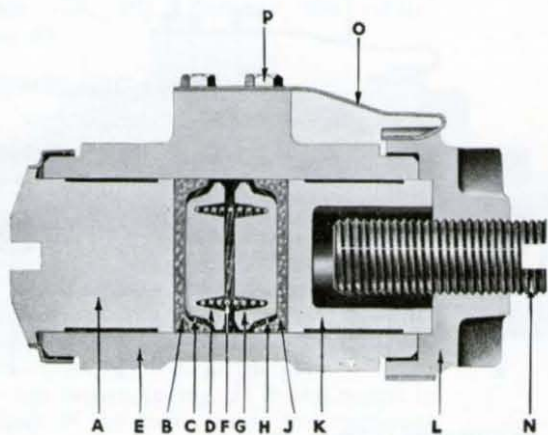

Fig. 41
The front wheel cylinder (see Figs. 41 and 42) consists of a body (E) in one end of which is a solid piston (A) formed with a flange, which carries a dust cover and butts against the cylinder. The outer end of this piston is slotted to provide a location for the heel of the brake shoe. In the opposite end of the cylinder body is another piston (K), deeply recessed on its outer face. This piston butts against a threaded end cap (L) which controls an adjusting screw (N), clearance for which is provided by the recess in the piston. The outer end of the adjusting screw is slotted to serve as a location for the toe of its respective brake shoe and to prevent the screw from rotating when assembled.